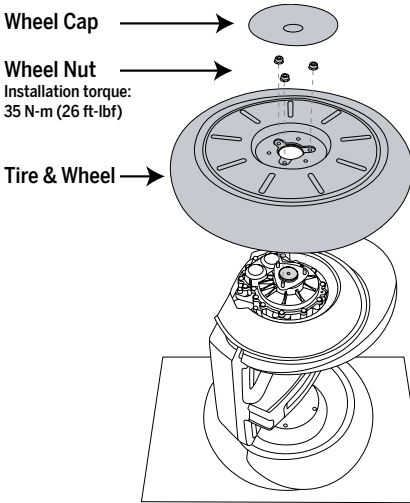
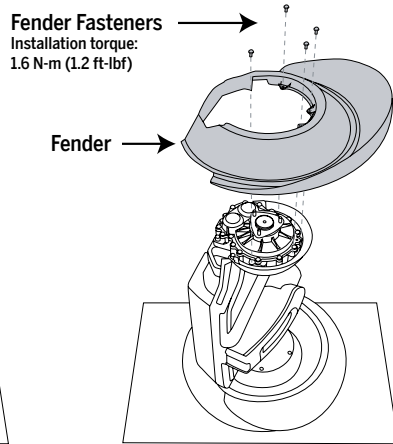

Figure 1. Removing or Installing the Tire & Wheel Assembly
Figure 2. Removing or Installing the Fender
2. Tip the Segway PT onto its side so the Fender you want to remove is facing up and the other Wheel rests against a clean, smooth surface. See Figure 1.
4. Hold the Wheel to keep it from rotating and remove the (3) Wheel Nuts with a 13mm socket wrench. You will need the (3) Wheel Nuts to re-install the Wheel.
6. To remove the Fender, use a T20 six-lobe wrench and remove the (4) fasteners which attach the Fender to the Gearbox. Lift off the Fender. See Figure 2.
7. To install the new Fender, position the new Fender so that it aligns with the holes in the Gearbox. **See Figure 2.**
8. Thread the (4) 11mm long fasteners (included with this kit) through the Fender to the Gearbox. Using a T20 six-lobe wrench, torque to 1.6 N-m (1.2 ft-lbf).
9. To replace Wheel, place the Tire & Wheel assembly over the 3 threaded posts. **See Figure 1.**
10. Hold the Wheel to prevent it from rotating and thread on the (3) Wheel Nuts. Using a 13mm socket wrench torque to 35 N-m (26 ft-lbf).